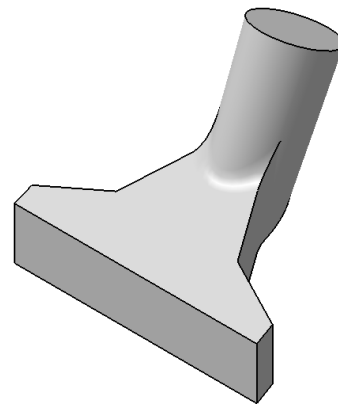

Figure 6-85 The model after creating the fillet
3. Choose the **OK** button from the **Edge Fillet Definition** dialog box. The model, after creating the first set of fillet, is shown in Figure 6-85.